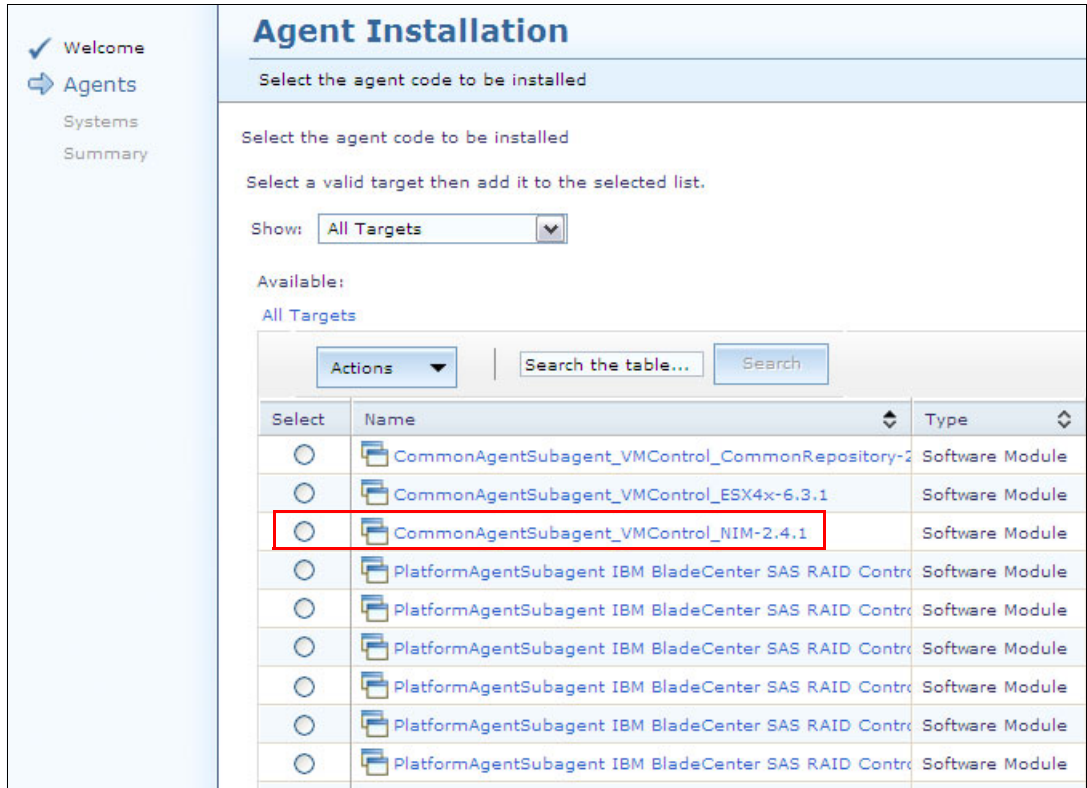

Figure 10-49 Agent Installation window
3. Select the agent for the NIM server as shown in Figure 10-49.